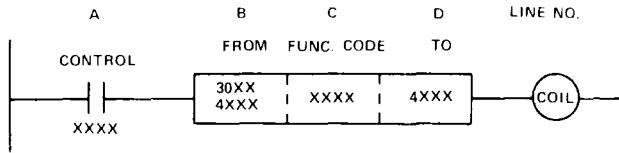

Figure 70. Typical DX Line
A typical Data Transfer (DX) logic line is shown in Figure 70. The contact in the A element activates the DX line; no operation is performed until this contact is closed (passing power through the A element). Either series-open or series-closed contacts, with any legal discrete reference can be utilized in the A element. The B element specifies where the data is to be obtained; any valid input register, output register, or holding register can be utilized in the B element. Data is copied from the location specified in the B element; the contents of the B element register are not altered.